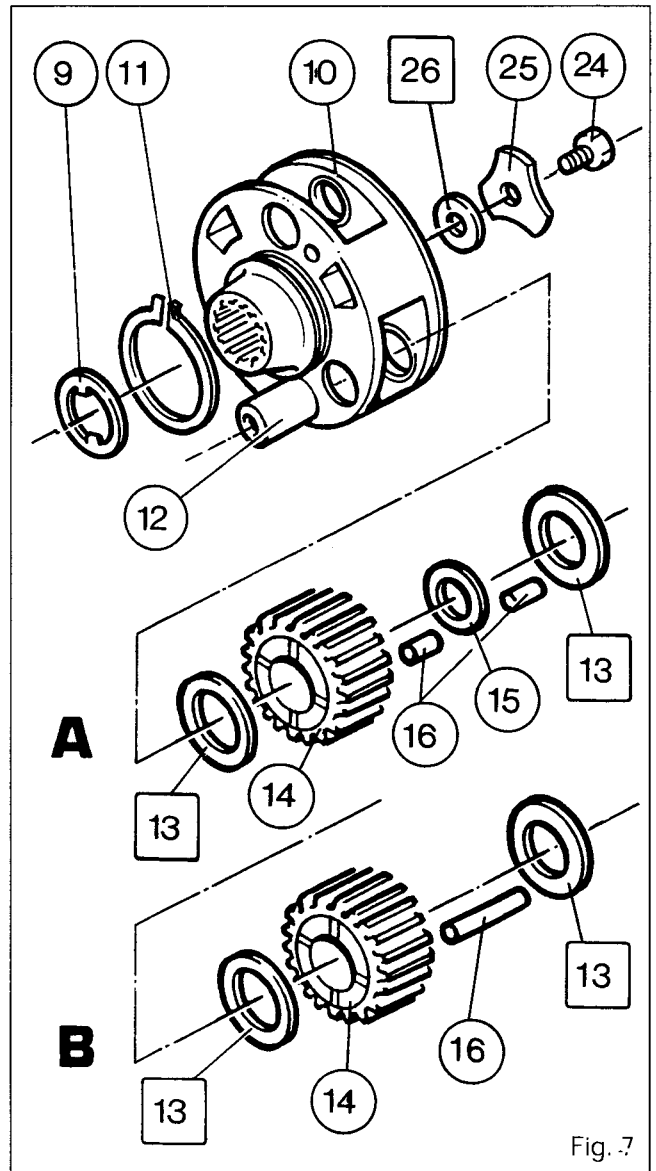
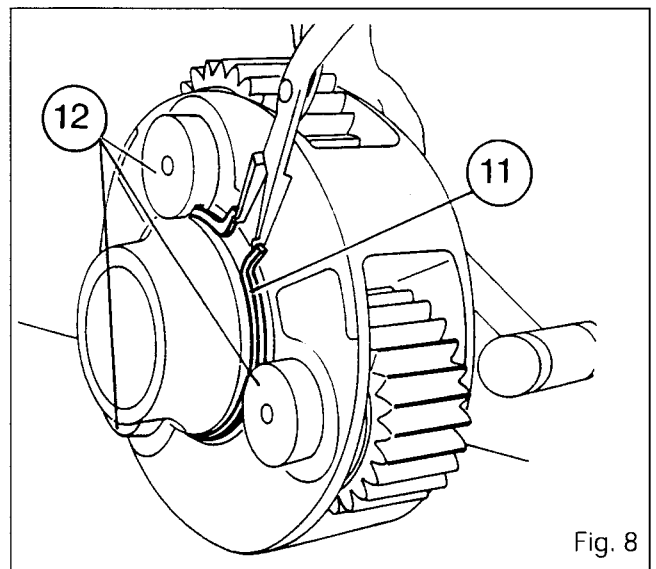
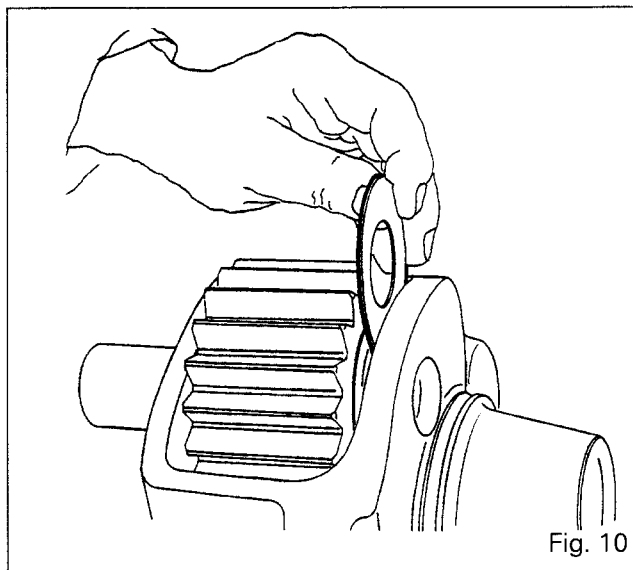

Fig. 7
Fig. 8
Fig. 10
2. Remove the bolt (24).
3. Remove the retaining washer (25) and the shim(s) [26] (Fig. 7).
4. Remove the planetary carrier assembly (10).
5. Open out the circlip (11) (Fig. 8).
6. Using a copper tipped mallet, tap lightly on the three pins (12) (Fig. 8).
7. Remove the three pins (12) and the circlip (11).
8. Remove the three planetary gears (14), the needle rollers (16), the spacers (15) (heavy duty planetary gear A) and the thrust washers [13].
9. Clean the planetary carrier (10), the pins (12) and the planetary gears (14). Check the condition of the parts.
10. Coat the needle rollers (16) with "Amber Technical" or an equivalent grease. Into each planetary gear (14) insert :
- Heavy duty planetary carrier (A) : two rows of needle rollers separated by a spacer (15) (Fig. 7).
- Normal duty planetary carrier (B) : one row of needle rollers (Fig. 7).
15. Pull out the three pins slightly and fit the shims [13] selected in procedure 14 (Fig.10).
16. Push in the three pins and fit the circlip (11).
17. Open out the circlip (11) (Fig.8).